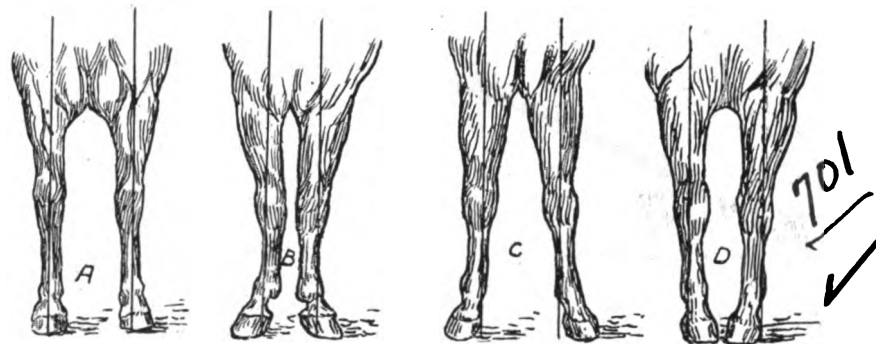

FIG. 2.—THE POSITION OF THE LIMBS MUST BE OBSERVED CLOSELY FROM THE FRONT
front. Fig. 2 shows the fore limbs, when viewed from the front, to be in the regular or normal position of shape,
i. e., a line dropped from the shoulder passes down the center of the limb and equally divides it and also the foot. At B in Fig 2 is shown a knock-kneed position of the fore limbs. Here the knees are shown in too close proximity, while the feet are apparently in normal position, though the bend at the knees twists the foot so that the toes point outward and away from each other instead of directly forward. At C is shown practically the same foot position though the limb position is much different. Here, the limbs while apparently straight, fall downward and outward from the body describing part of the letter A, instead of the straight limbed H, as the example at A, Fig. 2. The position of the fore limbs at D, Fig. 2, shows a toe narrow condition of the limbs. This position of the fore limbs is often encountered in wide-chested horses. The limbs fall from the body just the reverse of the position illustrated in C. The foot position is also reversed—the toes pointing toward each other because of the twist in the limb. There are also other limb positions which produce the foot narrow